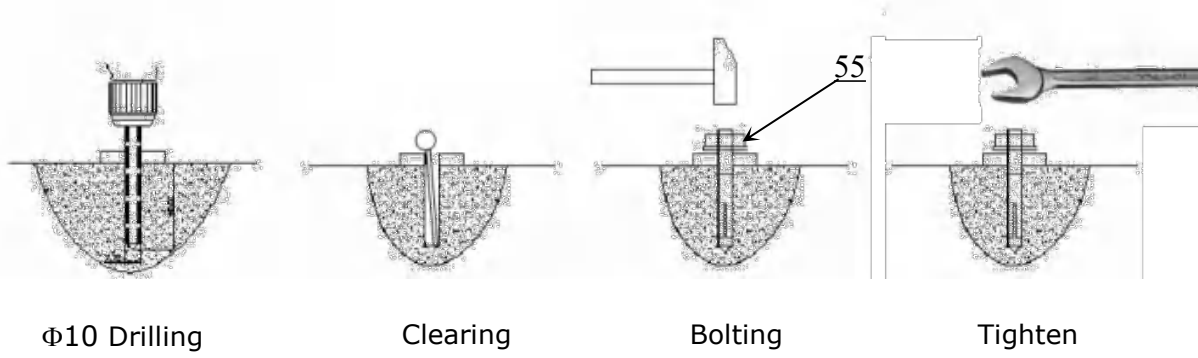

Fig. 16
3. Fix the control cabinet anchor bolts (M10×100mm) (See Fig. 16).